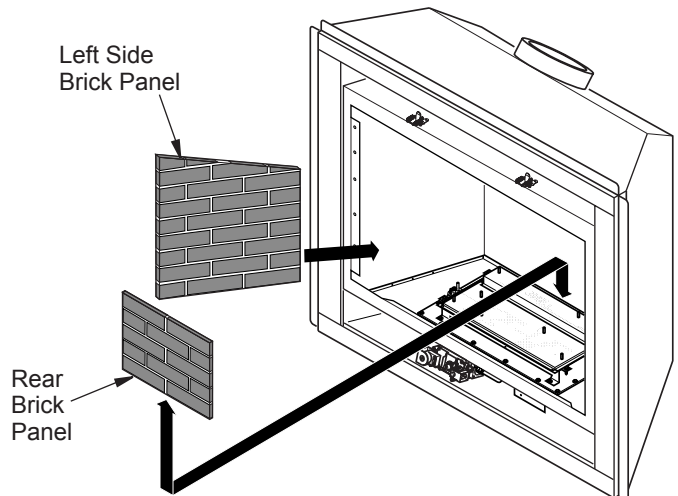

Figure 38 - Installing Rear Brick Panel
5. Install rear brick panel first. Rest bottom edge of panel on back edge of grate (see Figure 38).
6. Install left side brick panel by sliding it between burner assembly and side of firebox (see Figure 38).